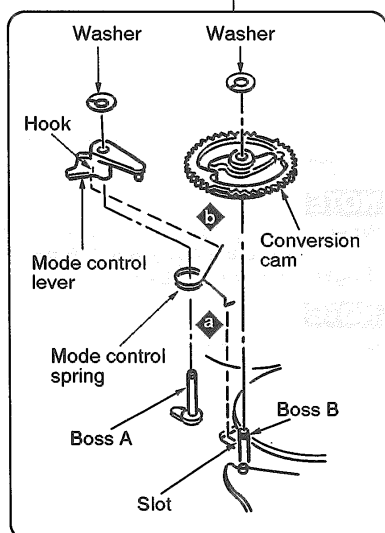

Figure 1
**Step 2** Install the mode control spring to the boss A, and then align the portion **a** of spring with the slot. (Refer to figure 1)
**Step 3** Install the conversion cam to the boss B, and then install the washer. (Refer to figure 1)
**Step 4** Install the mode control lever to the boss A. (Refer to figure 1)
Align the portion **b** of mode control spring with the hook of mode control lever. (Refer to figure 1)